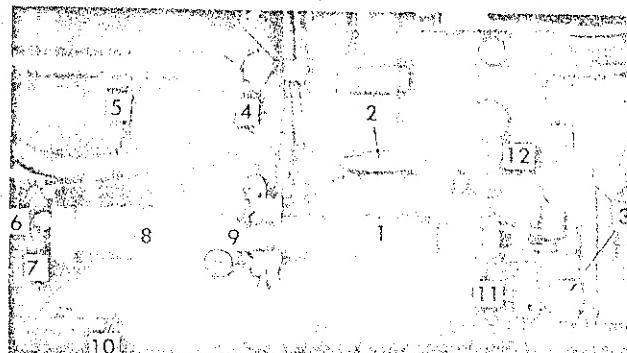

Figure 3—Starter Installed
1. Remove battery cable from solenoid terminal (fig. 3) and tape end to prevent accidental short and discharge of battery, or preferably disconnect ground cable at battery.